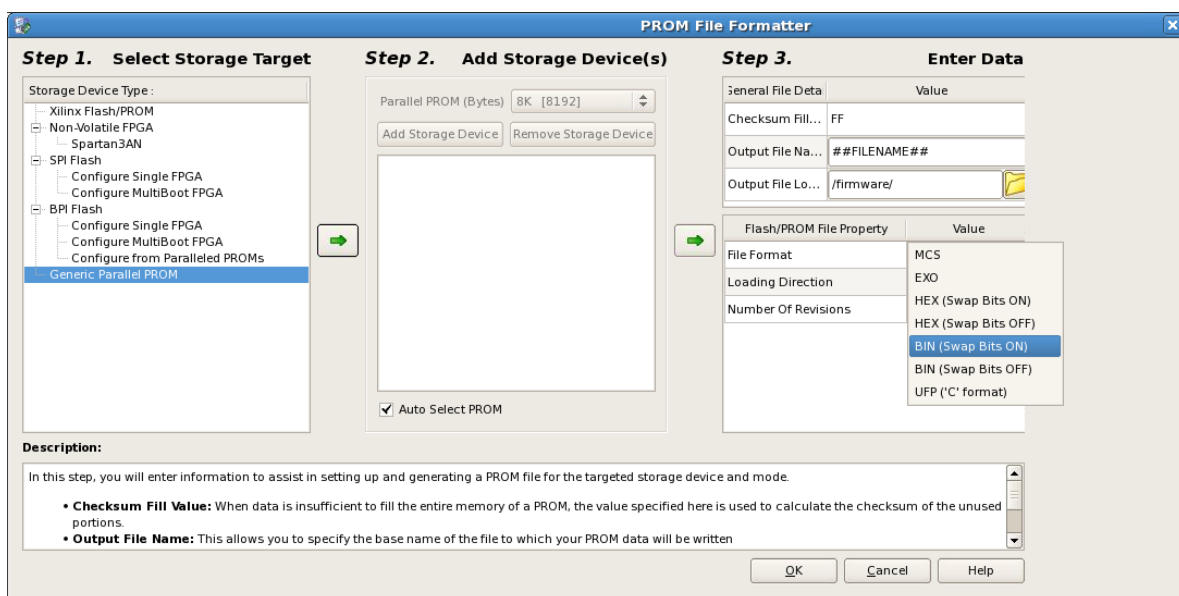

Figure 3-5: Binary file generation for indirect programming of FPGA via microSD card
2. Using IMPACT (see Figure 3-5), create a PROM file, using the parameters: